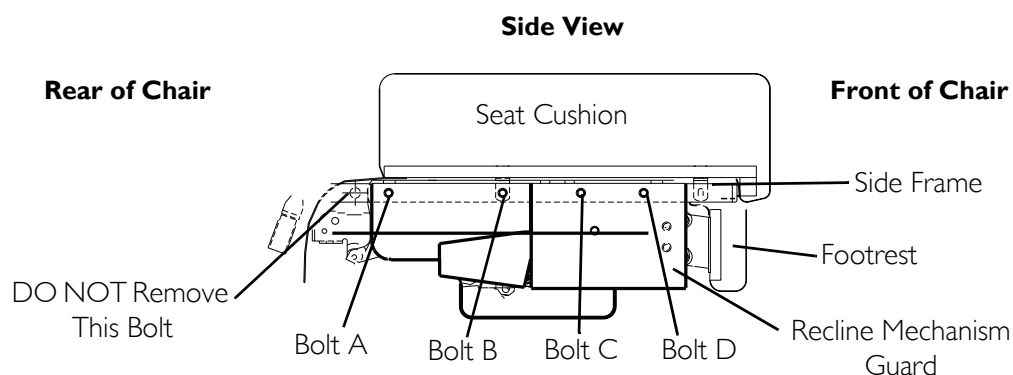

FIGURE 5.4 Replacing the Recline Mechanism Guard
NOTE: For this procedure, refer to FIGURE 5.4 on page 24.
4. Remove four existing bolts A, B, C, and D from side frame as shown in FIGURE 5.4 on page 24.